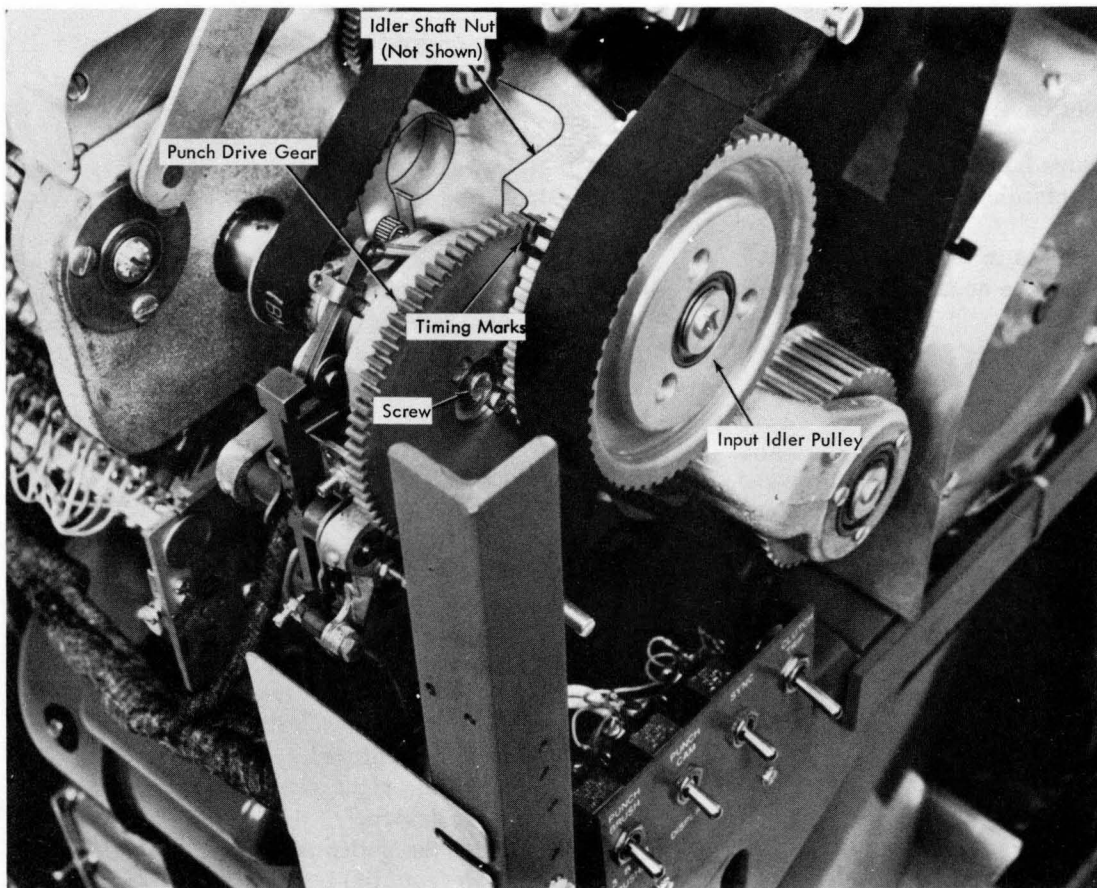

Figure 4-43. PACB Timing Marks
2. Mark punch input idler pulley relationship to punch drive gear (Figure 4-43). If this relationship is not maintained there is a possibility of getting the punch clutch back in step $\pm 2^{\circ}$ out of time.